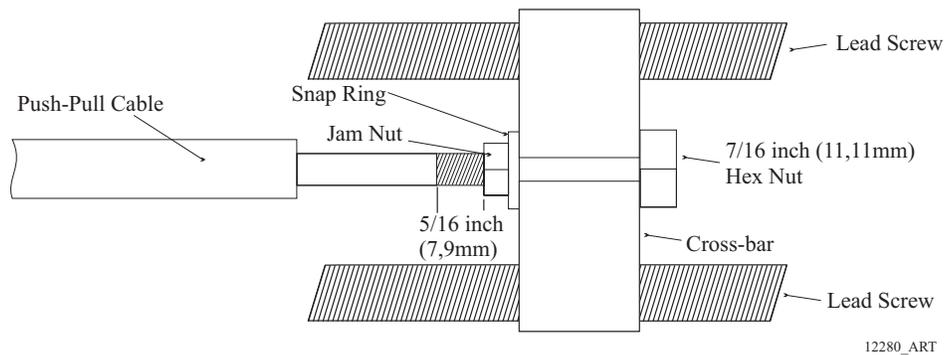

Figure 4-22: Processor Push-Pull Cable Interior Connections
- E Connect the push-pull cables to the hex nuts (See Figure 4-22: Processor Push-Pull Cable Interior Connections). Use a 7/16 inch socket to turn the hex nut onto the cable rod end until there is approximately 5/16 inch (7,9mm) of thread showing beyond the jam nut.